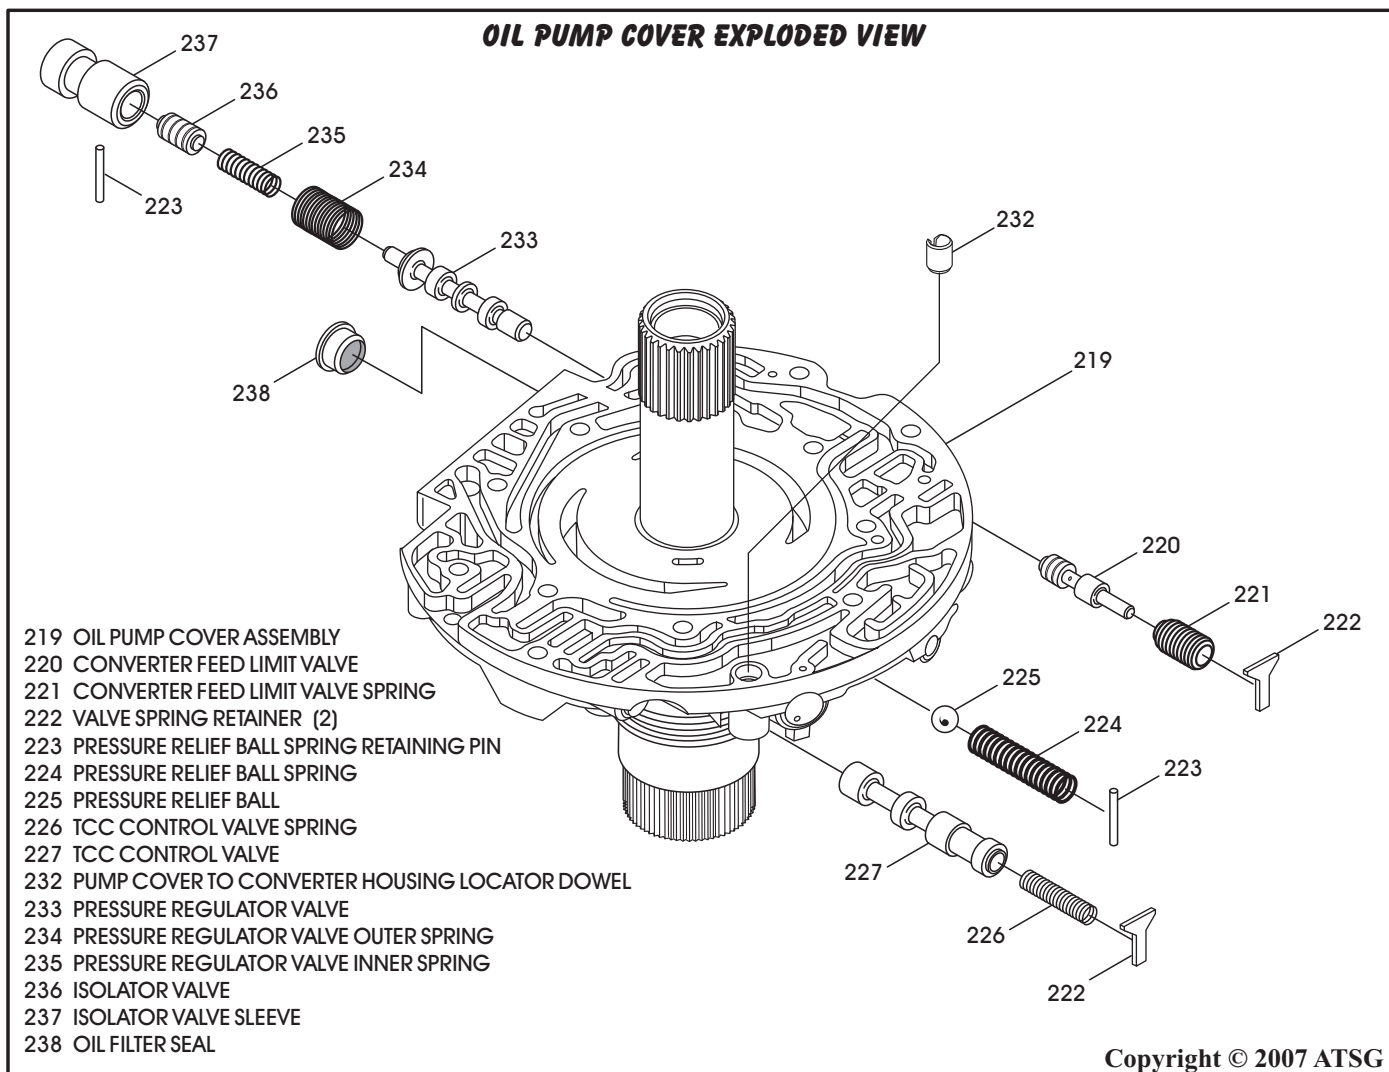

Figure 62
9. Disassemble the pump cover assembly using Figure 62 as a guide.
13. Install each valve train back into their bores **exactly** as shown in Figure 62.
14. Be sure to install the locating dowel, as shown in Figure 62, if you removed it.